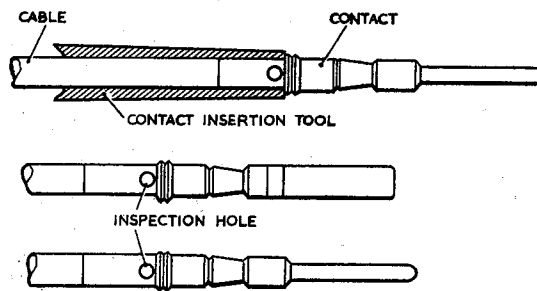

Fig. 12. Insertion detail
(2) Drop contact into crimping tool and insert the prepared end of conductor into the back of the contact.
(3) Depress the crimping tool level, the crimping tool will not release until the crimping cycle has been completed.
(4) Check the inspection hole at contact end of crimp to ensure that the cable is correctly located. The depression allows check on length of conductor crimped fig. 12.
(2) Apply insertion tool to crimped contact and cable ensuring that the end of the insertion tool is butted against the shoulder of the contact fig. 12.
(3) Push the insertion tool, contact and cable straight into the rear face of connector insert cavity until the contact snaps into its retained position.
(4) Pull insertion tool straight back out of connector insert.
(5) A light pull on the cable will verify that the contact is in its retained position. If the contact is not retained it must be completely removed from the connector insert before reapplication of the insertion tool.
(6) Slide the follower along cables and into position over rear of insert. Screw up retaining nut. Contacts should be fitted even if left unwired.